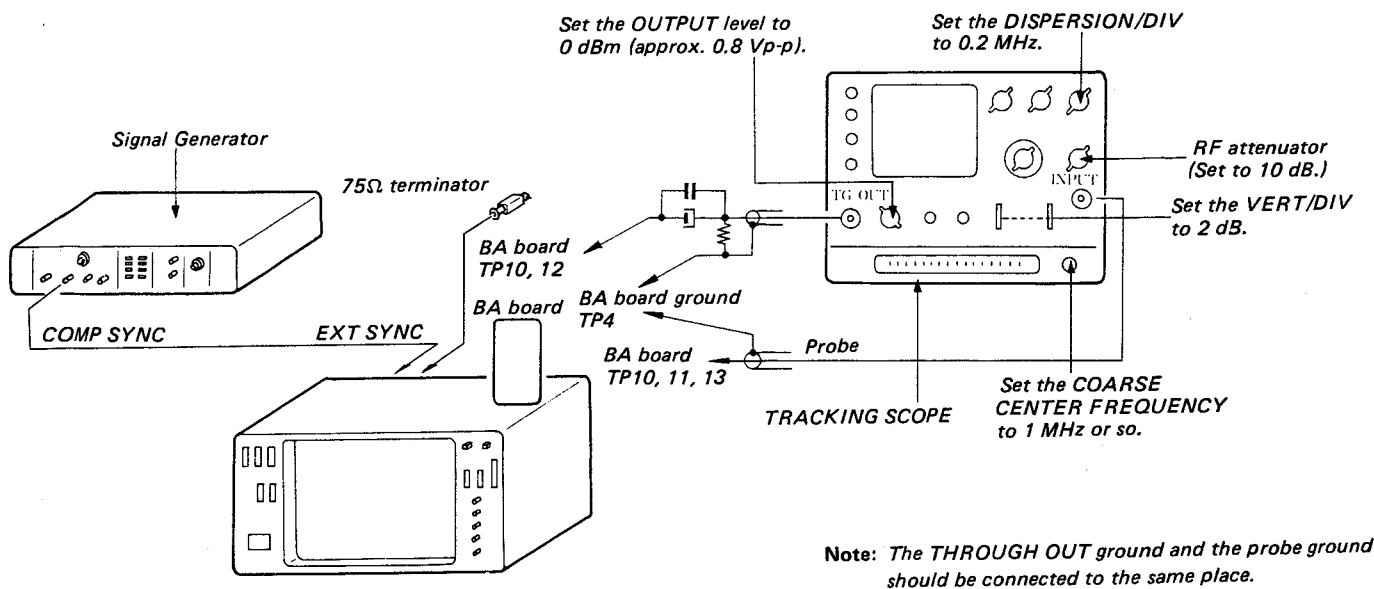

Fig. 5-74.
6. Complete the connections as shown in Fig. 5-74.